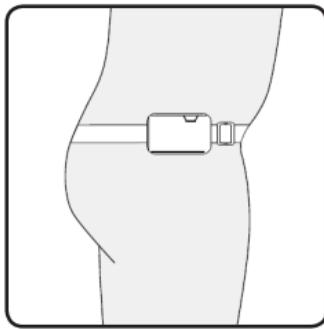

Figure 4: Fasten the belt on the patient's body and adjust the width as necessary
1. Fit the belt around the patient's waist. Fasten and adjust the belt width as necessary (**Figure 4**). The belt should be worn such that it is comfortable for the patient. The pouch for the TS is located above the patient's hip.